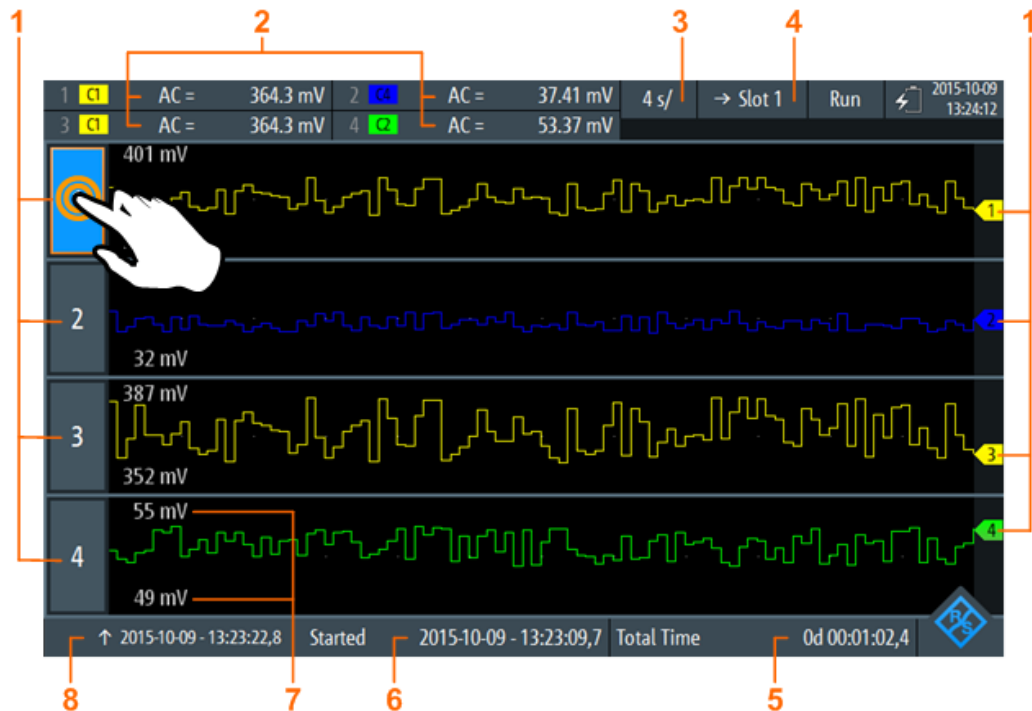

Figure 8-1: Logger display, view of all logged scope measurements
1. To switch to one-log-view, tap on one of the logged measurements as shown in Figure 8-1.